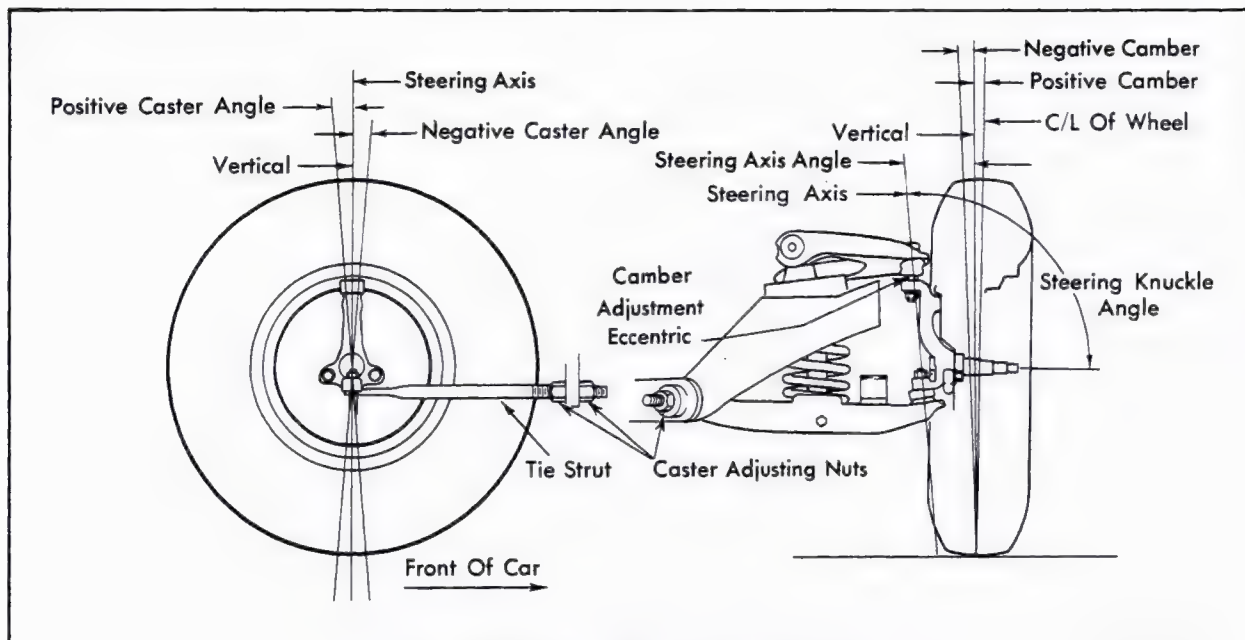

Fig. 3-2 Elements of Front Wheel Alignment
1. Front Wheel Alignment (Fig. 3-2)